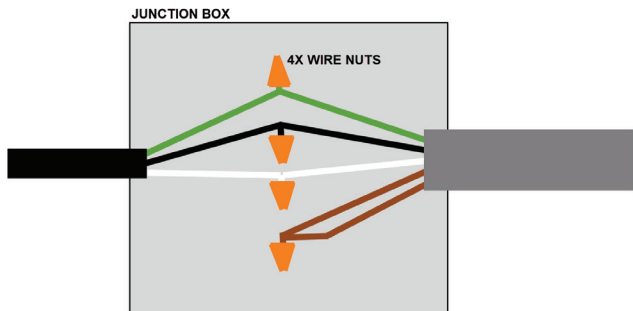

Figure 4-4
If a battery backup is included, there will also be two (2) brown wires in the junction box. The two (2) brown wires get tied to each other. *See Figure 4-4.*